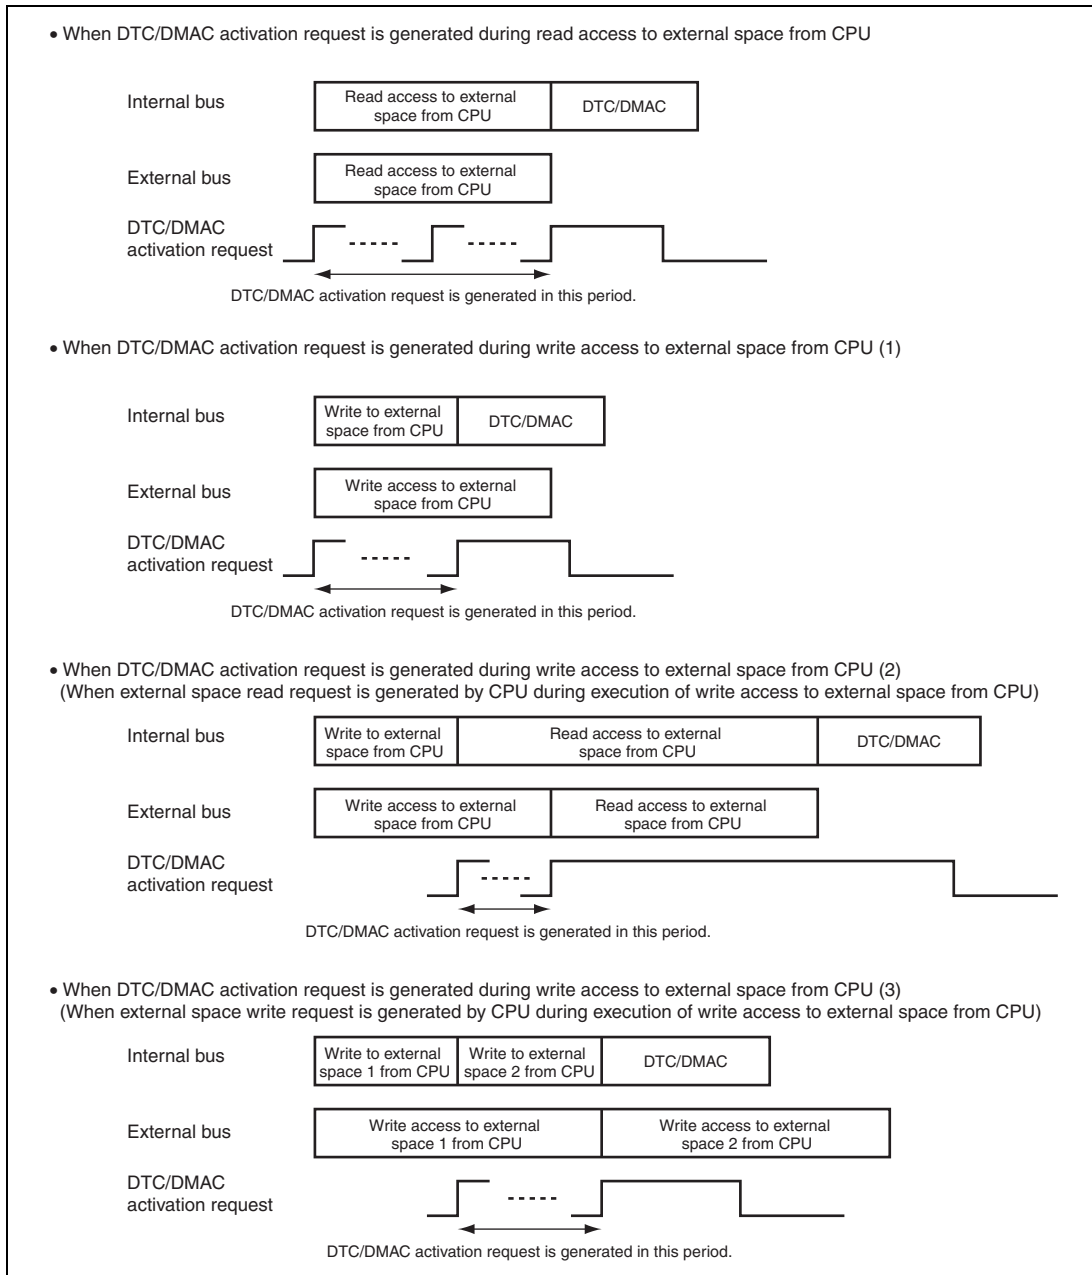

Figure 9.51 Bus Arbitration when DTC or DMAC Activation Request Occurs during External Space Access from CPU
In addition, because the write buffer operates as described in section 9.5.14 (2), Access in View of LSI Internal Bus Master, arbitration between the CPU and DTC/DMAC is different depending on whether the external space access by the CPU is a write or read access. Figure 9.51 shows the bus arbitration when a DTC or DMAC activation request is generated while an external space is accessed by CPU.